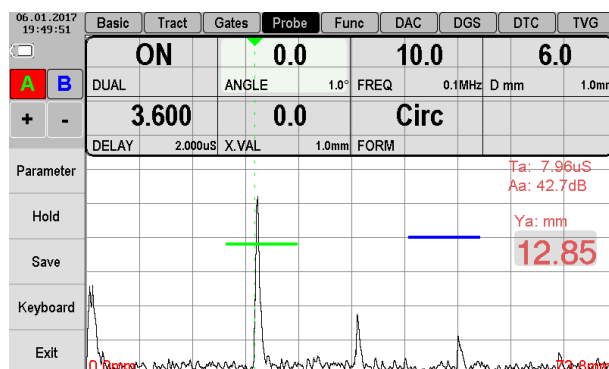

Figure 2.18 – Setting entry angle of UT waves - «ANGLE» parameter
- Entry angle of UT waves «ANGLE». For straight beam probe angle is equal 0 (Figure 2.18). In dependence with material of tested object, entry angle of UT waves can be changed. Angle could be determined by means of standard calibration block, made from the same material as tested object, see paragraph about calibration (2.5.3).